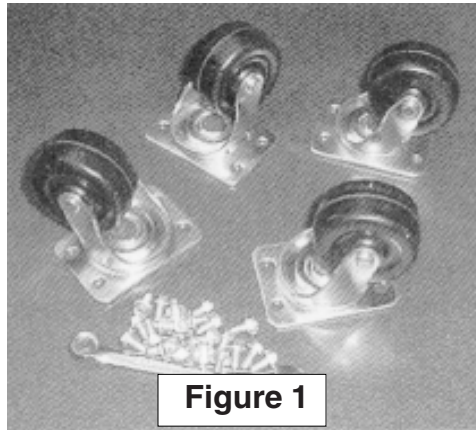

Figure 1
- Using the wrench provided and the (16) sixteen screws (Figure 1), install all (4) four casters in the tapping holes in the bottom of the unit. Tighten securely.